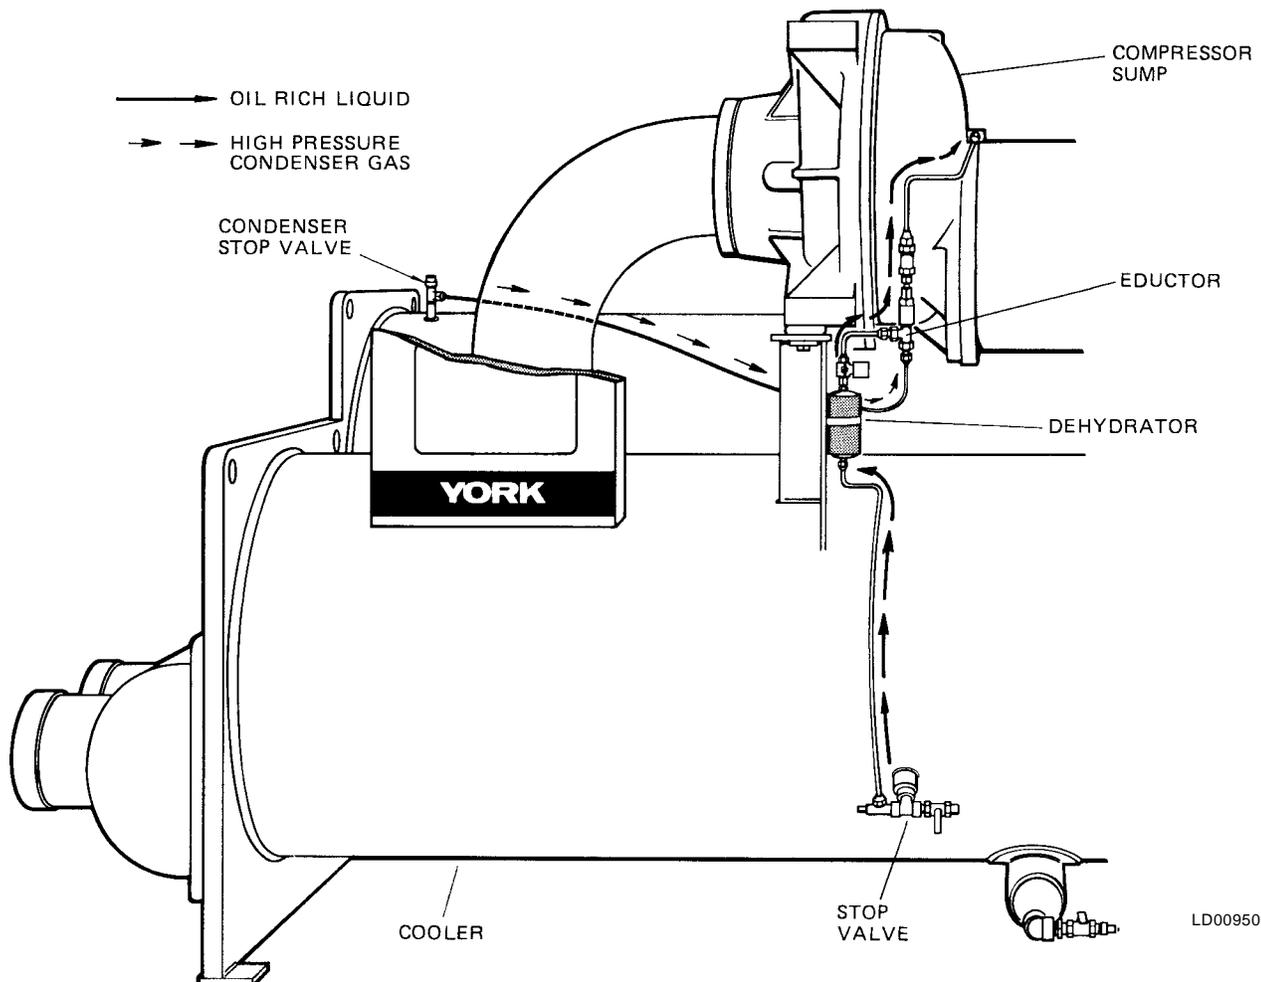

FIG. 19 – OIL RETURN SYSTEM
2. Remove the dehydrator. Refer to Fig. 19.